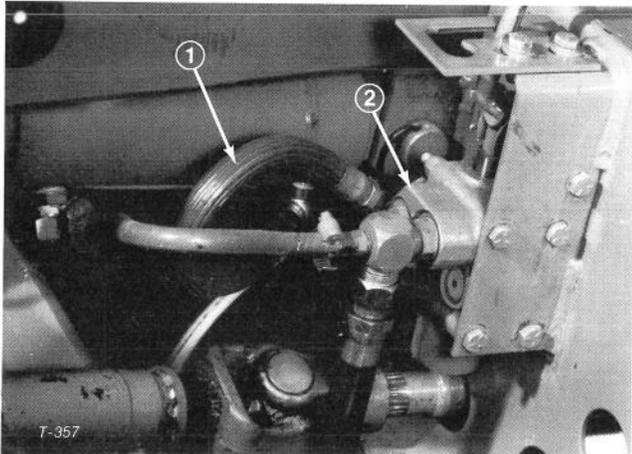

Figure 74
5. Disconnect cylinder hose from 90° fitting on lift valve (Fig. 74). Keep end of hose higher than cylinder to prevent oil from draining out the hose. Plug end of the hose.